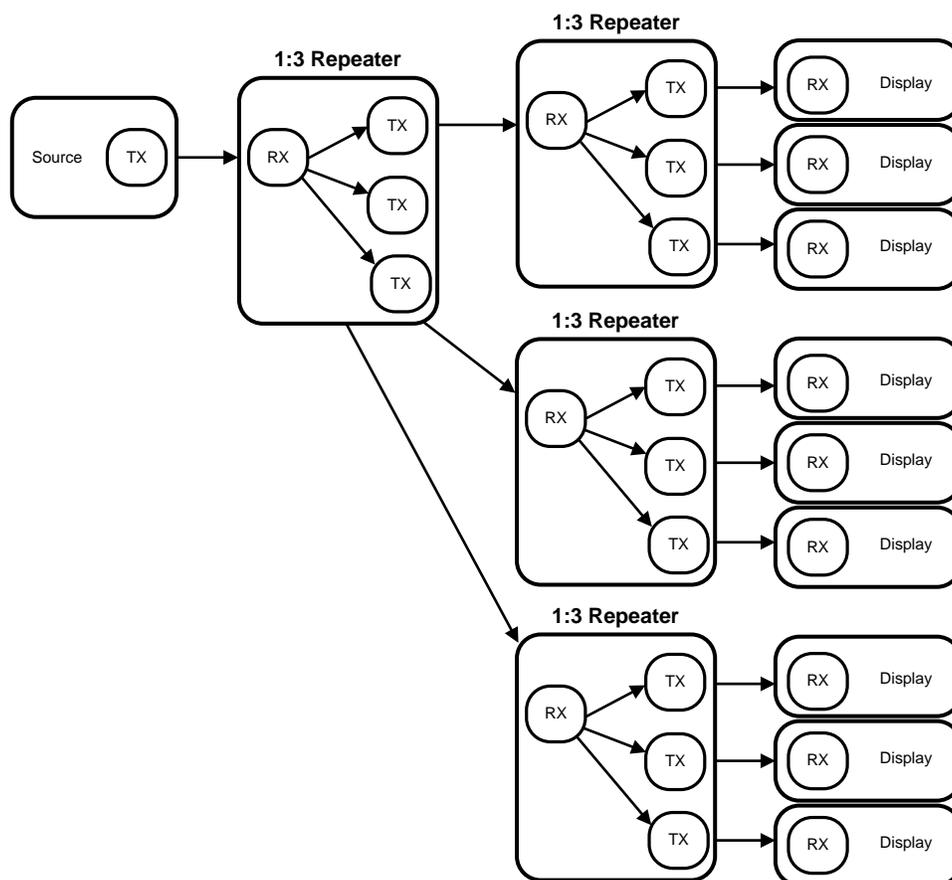

Figure 15. Maximum Repeater Application
In a repeater application, In this document, the DS90UB925Q is referred to as the Transmitter or transmit port (TX), and the DS90UB926Q is referred to as the Receiver (RX). Figure 15 shows the maximum configuration supported for Repeater implementations using the DS90UB925Q (TX) and DS90UB926Q (RX). Two levels of Repeaters are supported with a maximum of three Transmitters per Receiver.